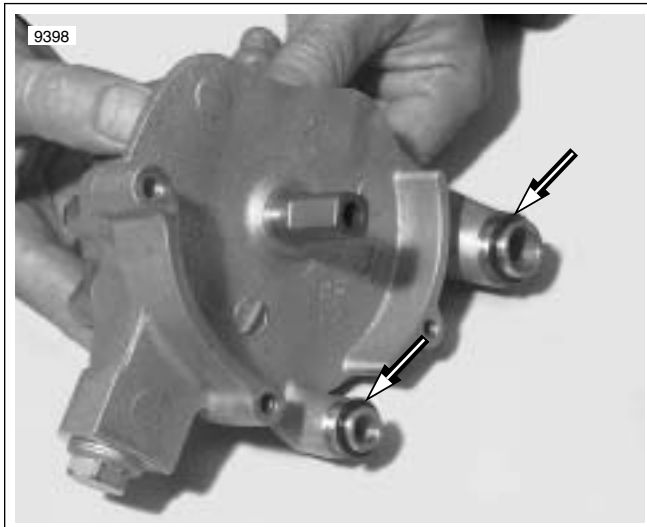

Figure 3-69. Lubricate O-Rings
6. See Figure 3-69. Install **new** o-rings and lubricate with Harley-Davidson Motorcycle Oil 20W50.